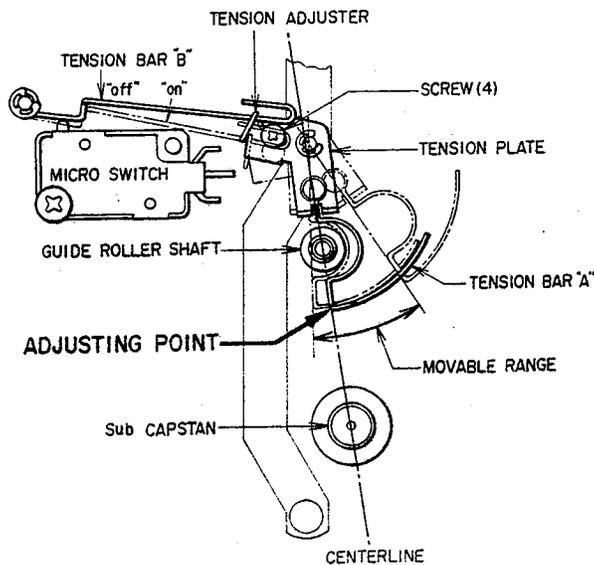

Fig. 10 Shut-off Function Adjustment
Set Tension Adjuster and tighten Screw (4) so that when the tip of Tension Bar A reaches the center line (lined up with the center of Sub Capstan and Center of Guide Roller Shaft, as shown in Fig. 10) the microswitch is turned "off".